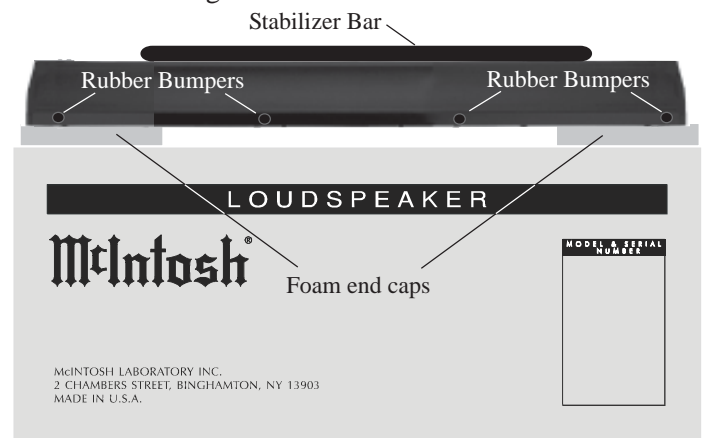

Figure 8
6. Place the Loudspeaker System, with the front facing down, on foam end caps located on top of the shipping carton. Refer to figure 8.
7. Attach the four rubber bumpers to the bottom long edge of the XCS350 Loudspeaker System. Refer to figure 8.